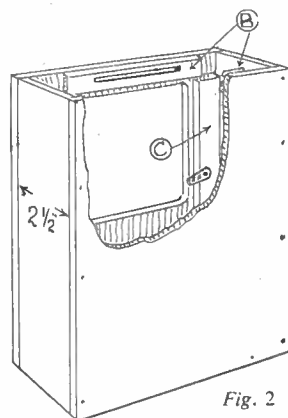

Fig. 2
edges, as shown in the view of the box given in Fig. 2.
The sides of the box which are $2\frac{1}{2}$ ins. wide are cut, and then both sides, front and back nailed and glued together. Prepare two $\frac{3}{4}$ in. by $\frac{3}{4}$ in. strips of the wood $6\frac{1}{2}$ ins. long, and glue these to the rear of the front under (B), one each side of the panel opening (C) in Fig. 2. In the frame formed by these and (B) is a piece of glass, and a backing of plywood to hold the licence. To hold these in position, a brass clip $\frac{3}{4}$ in. long is fitted to (C) with a screw, one being shown in the drawing. It is simplest to fix these clips before the strips (C) are in place.